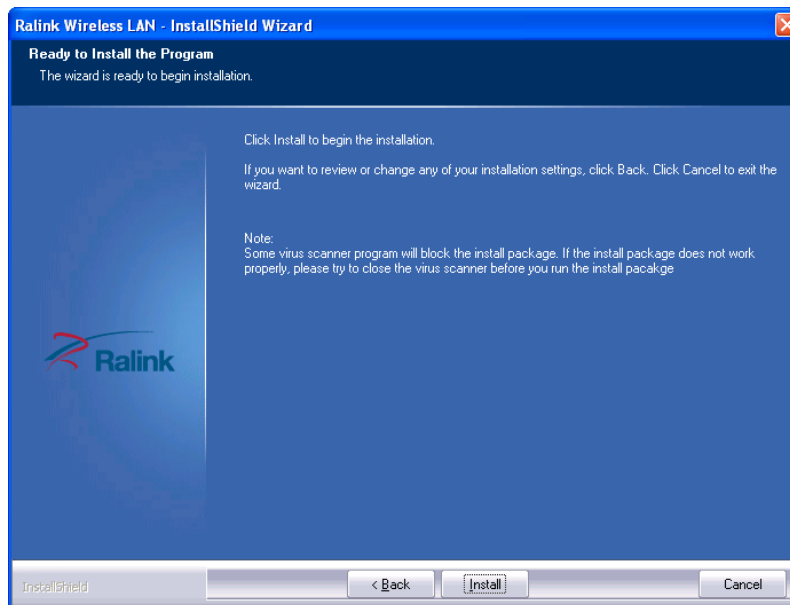

Figure 5-35: Ready to Install the Program
Step 9: The **Ready to Install the Program** screen in **Figure 5-35** appears.